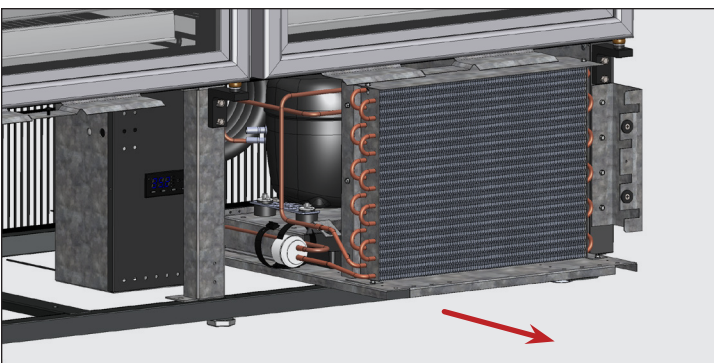

Fig. 7. Carefully slide the condensing unit out.
7. Carefully slide the condensing unit out (tubing connections are flexible). See fig. 7.